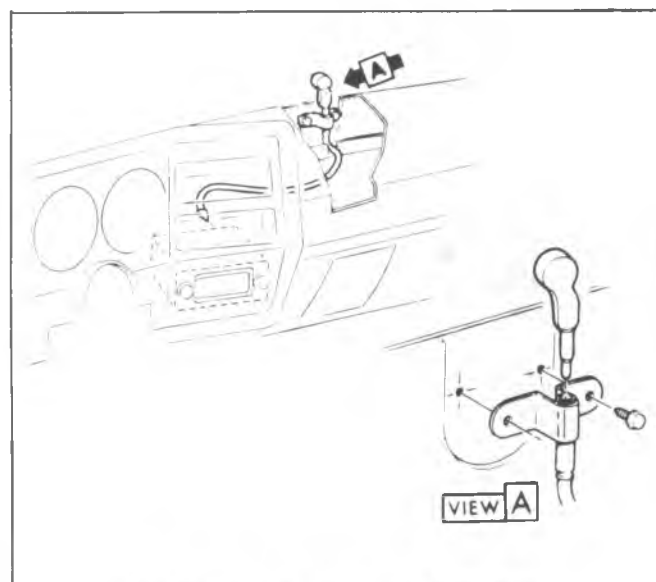

Fig. 9-17R--Antenna Lead (C-K Models)
**Cable Replacement (Fig. 9-17R)**